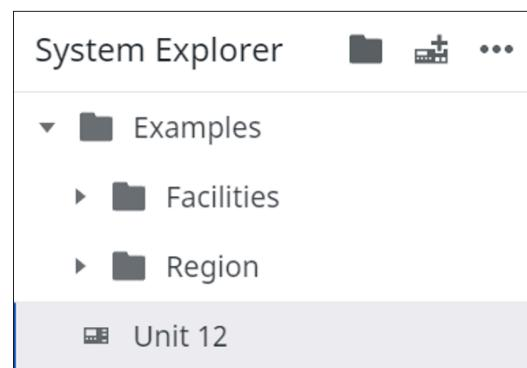

Figure 2.3 New Device in the System Explorer
- Step 4. Fill in a project name and part number. You can also add a Description and an ID for your device if you wish. Select **Create**. A device project includes all the information (such as settings, comments, communications parameters, etc.) that SEL Grid Configurator manages for a device. *Figure 2.3* shows how a new device project looks in the System Explorer.